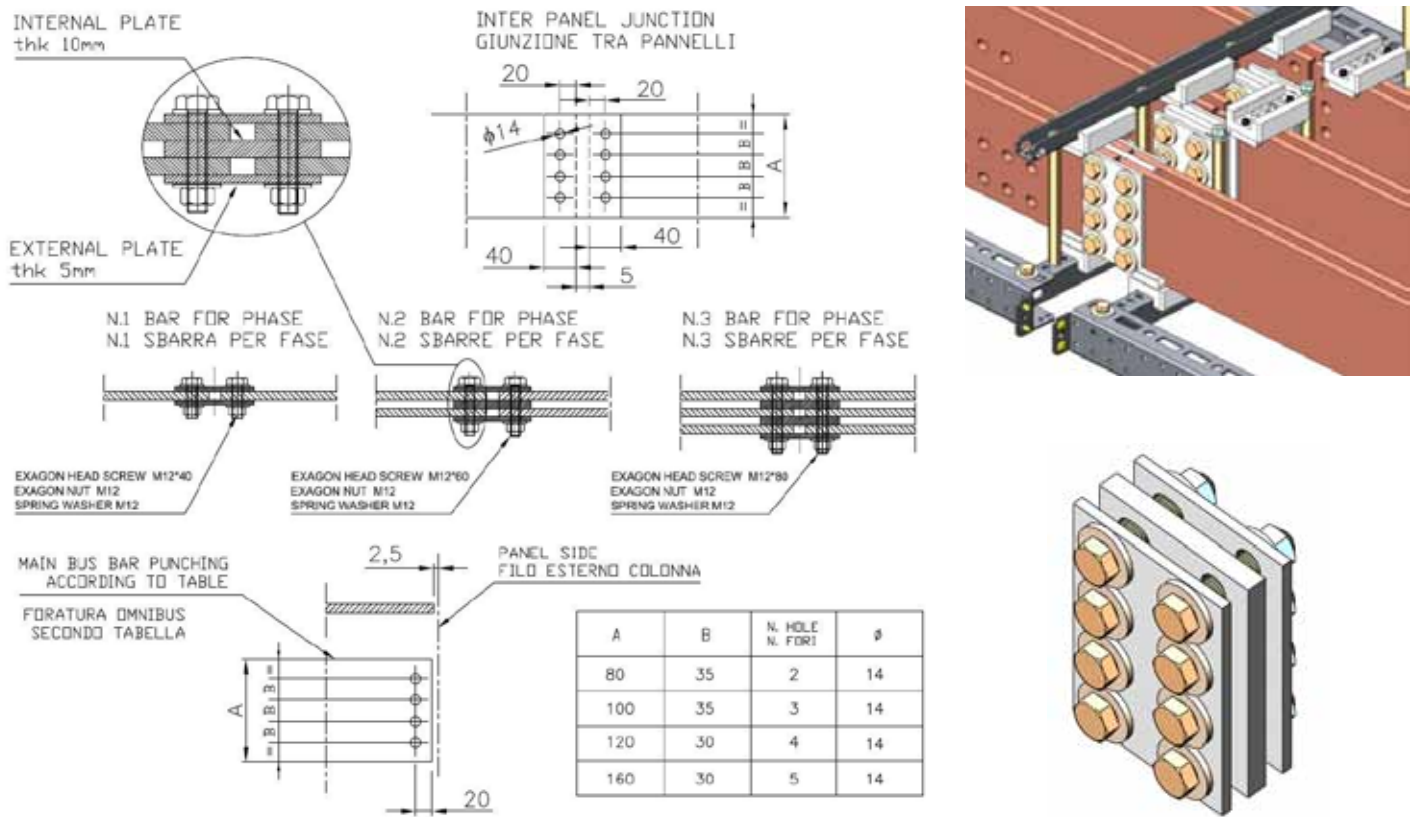

Fig. 24a Standard busbar connections
3.3.1 Busbars Connection (see fig. 24a-b)